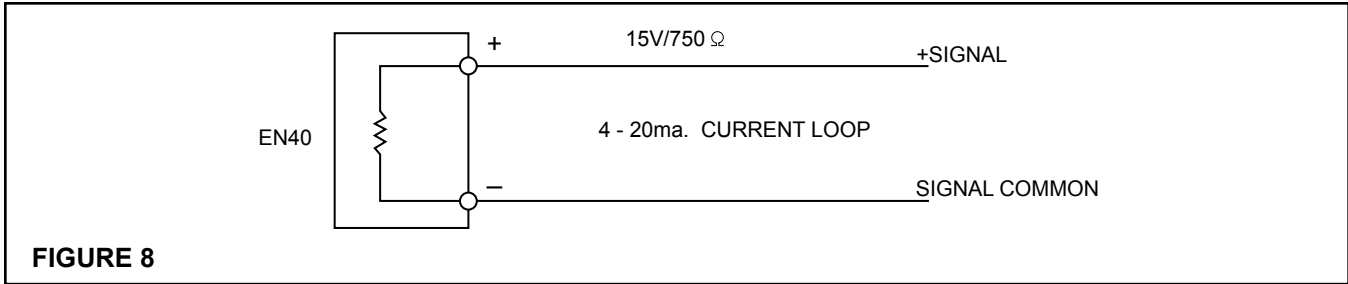

FIGURE 8
2. Using customer supplied 18AWG wire, connect EN40 to controller (See Figure 8), routing wire through threaded conduit hole on side of "EN40."